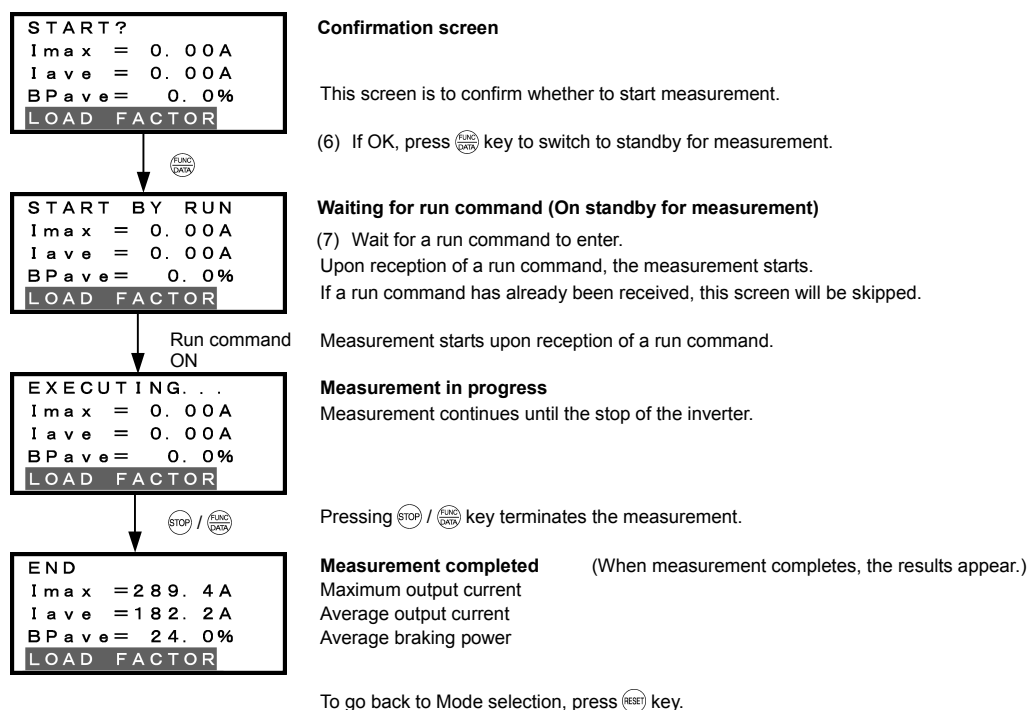

Figure 3.31 Screen Transition for "Load Factor Measurement" (Start-to-stop measurement mode)
- (1) Turn the inverter ON. It automatically enters Running mode. In that mode, press the key to switch to Programming mode and display the menu screen.
- (2) Move the pointer $\rightarrow$ to "9. LOAD FCTR" with the and keys.
- (3) Press the key to establish the selected menu and proceed to the measurement mode selection screen.
- (4) Select START $\rightarrow$ STOP (Start-to-stop measurement mode) with the and keys.
- (5) Press the key to establish the selected measurement mode.
- (6) On the confirmation screen, press the key to switch to standby for measurement.
- (7) Wait for a run command to enter. For details, refer to the screen transition in Figure 3.31.
Figure 3.31 shows an example of the LCD screen transition starting from Menu #9 "Load Factor Measurement."